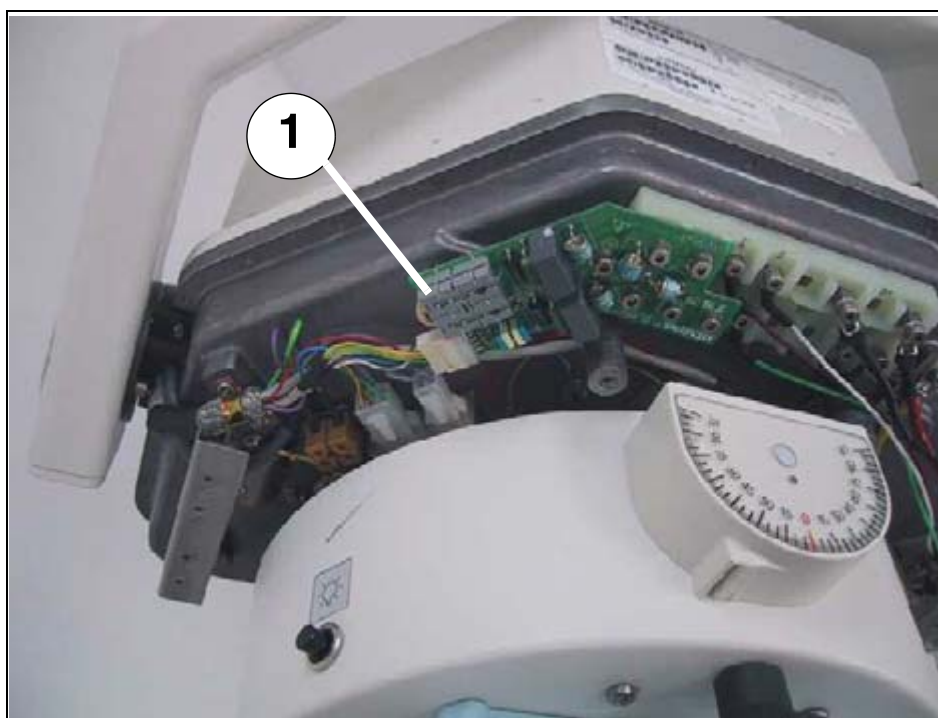

Fig. 20: mAs jumper D907
- Remove cover from single tank and connect mAs meter to D907 (1/Fig. 20 / p. 47).